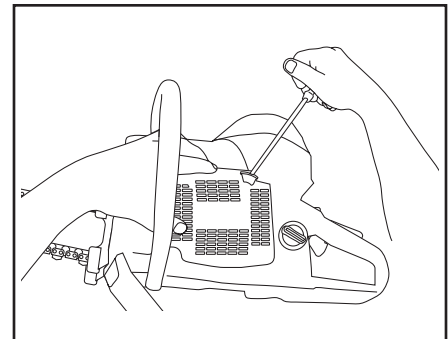

Figure 5
- To reattach the starter housing, first pull the starter cord out, then hold the starter housing against the crankcase (Figure 5). Slowly release the starter cord to enable the pulley to fit between the pawls.